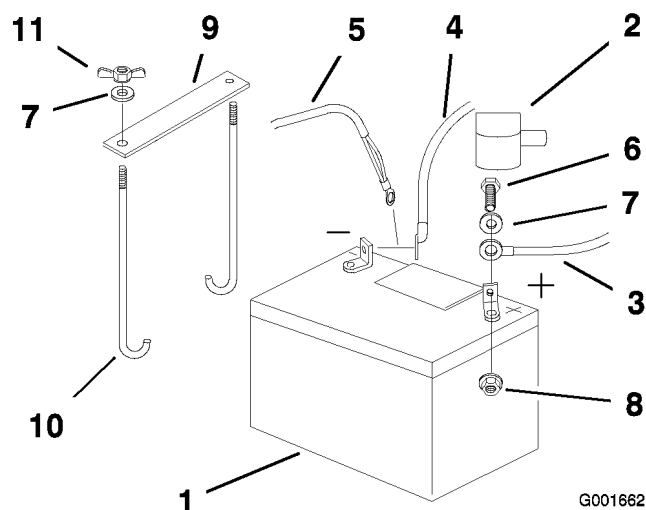

Figure 36
4. First disconnect the negative battery cable and ground wire from the negative (-) battery terminal (Figure 36).
5. Slide the red terminal boot off the positive (red) battery terminal. Then remove the positive (red) battery cable (Figure 36).
6. Remove both wing nuts (1/4 inch) securing the battery clamp (Figure 36).
1. Position battery in the tray with the terminal posts toward the engine(Figure 36).
4. Secure the cables with 2 bolts (1/4 x 3/4 inch), 2 washers (1/4 inch), and 2 locknuts (1/4 inch) (Figure 36).
6. Secure battery with J-bolts, hold down clamp and 2 washers (1/4 inch), and 2 wing nuts (1/4 inch) (Figure 36).